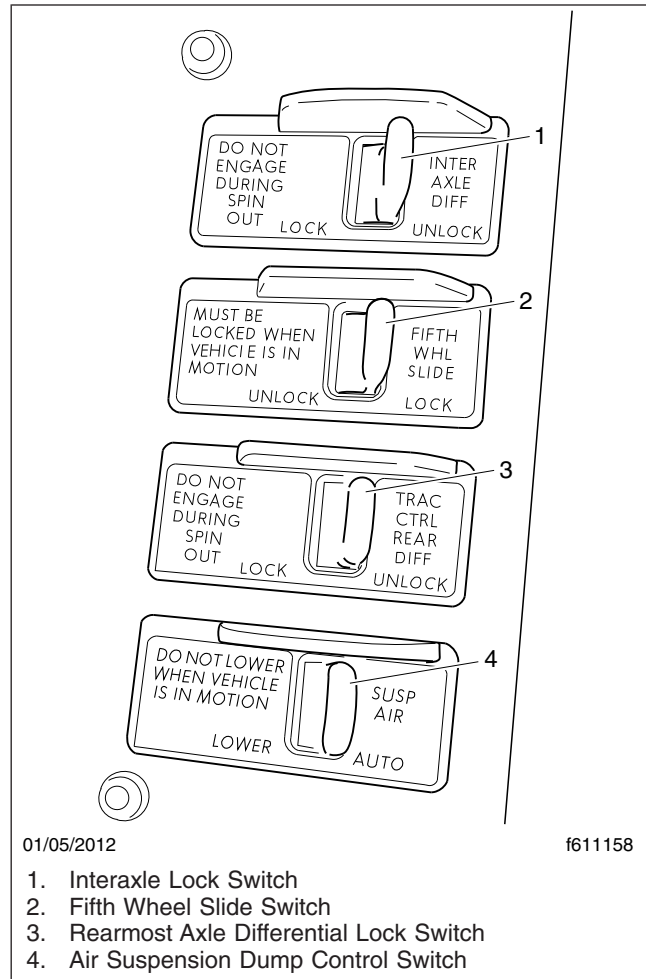

Fig. 16.1, Axle and Suspension Switches
- a switch to control the differential lock on the rearmost drive axle (see Fig. 16.1, Item 3).
The interaxle lock switch allows the driver to lock the drive axles together. See Fig. 16.1, Item 1.